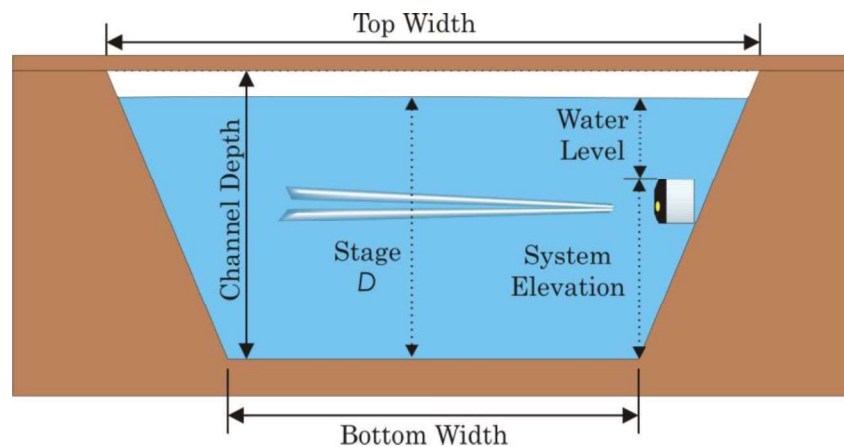
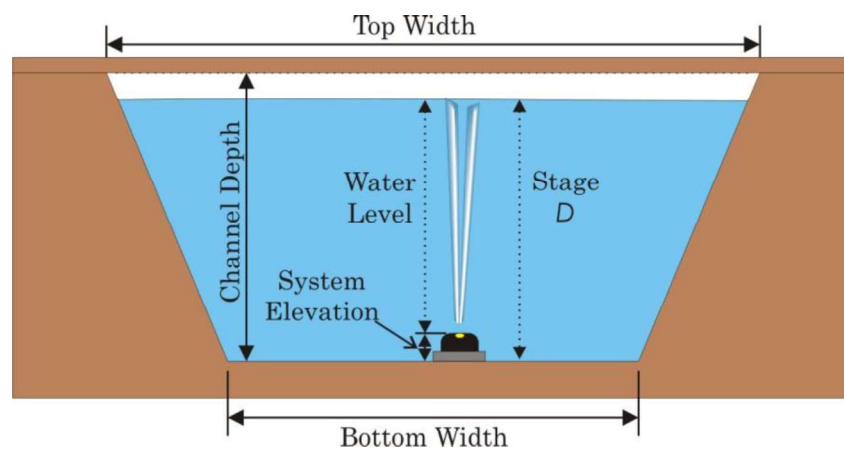

Figure C-7. Culvert Channel Geometry – Argonaut-SL
Figure C-8. Culvert Channel Geometry – Argonaut-SW
>ChannelType Culvert                        See Figure C-7 (SL) or Figure C-8 (SW).
- **Culvert**: The height of the top of the system (vertical beam transducer face) relative to the bottom of the channel. Available for SL (**Figure C-7**) and SW (**Figure C-8**) systems.
- **Equation**: The height of the top of the system (vertical beam transducer face) relative to the same datum used to develop the stage/area equation (i.e., the local datum). Available for SL (**Figure C-7**) and SW (**Figure C-8**) systems.